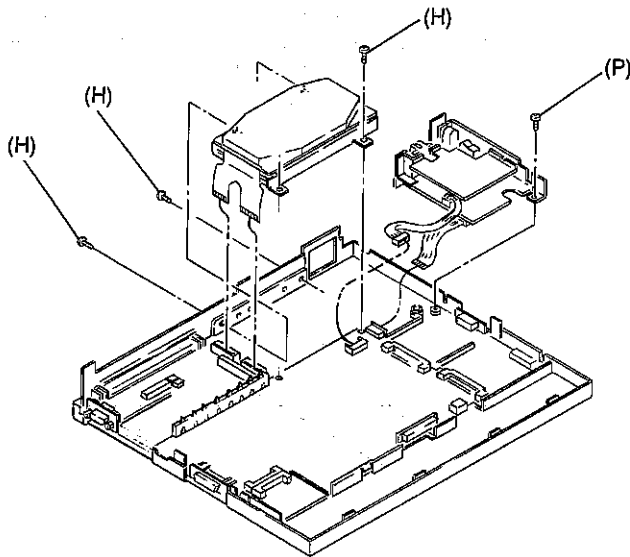

Fig. 2-6
- Remove the screw (P) which is fixing the power unit, then remove the power unit. Remove the two connectors. (Fig. 2-6) When it is difficult to remove the connectors, remove the hard disk first.